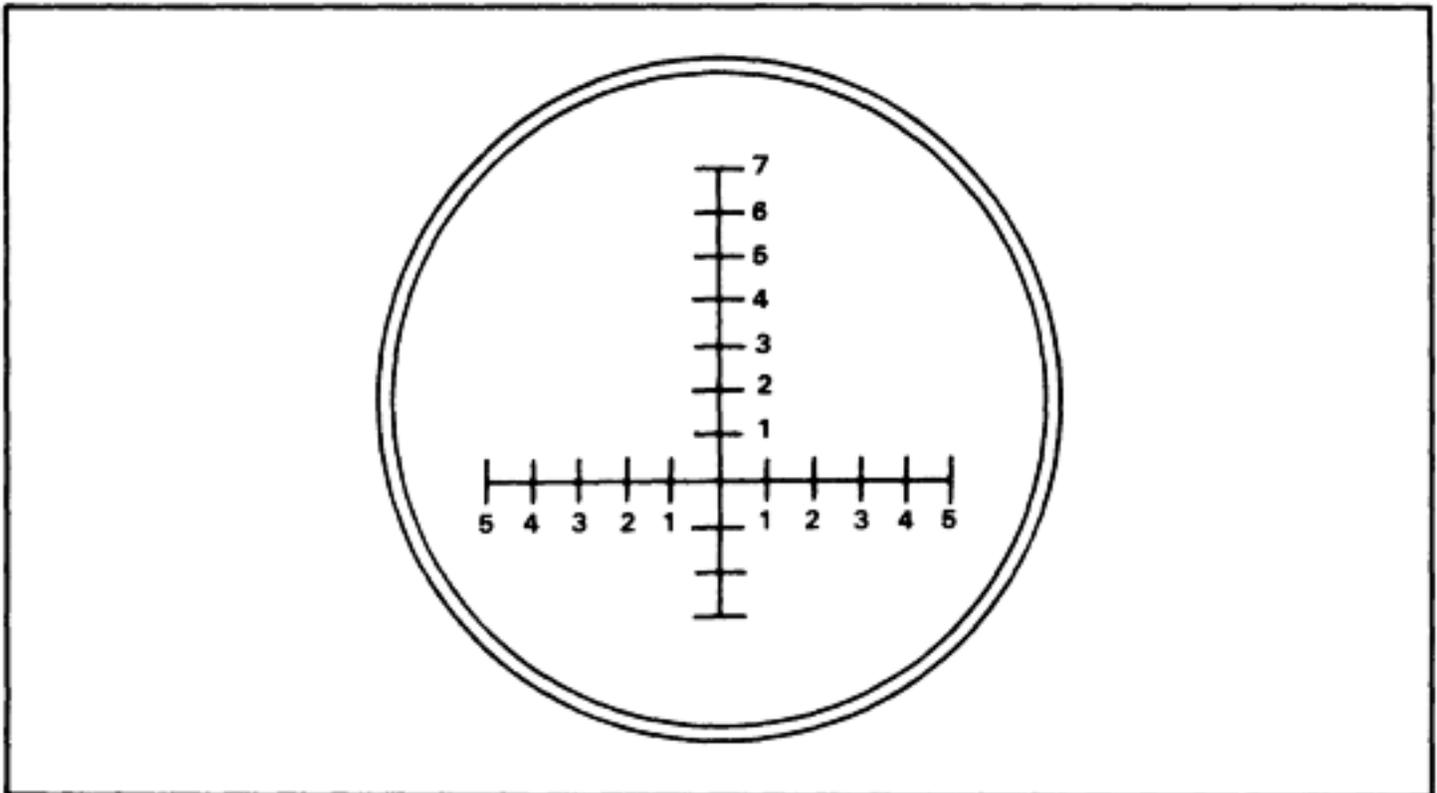
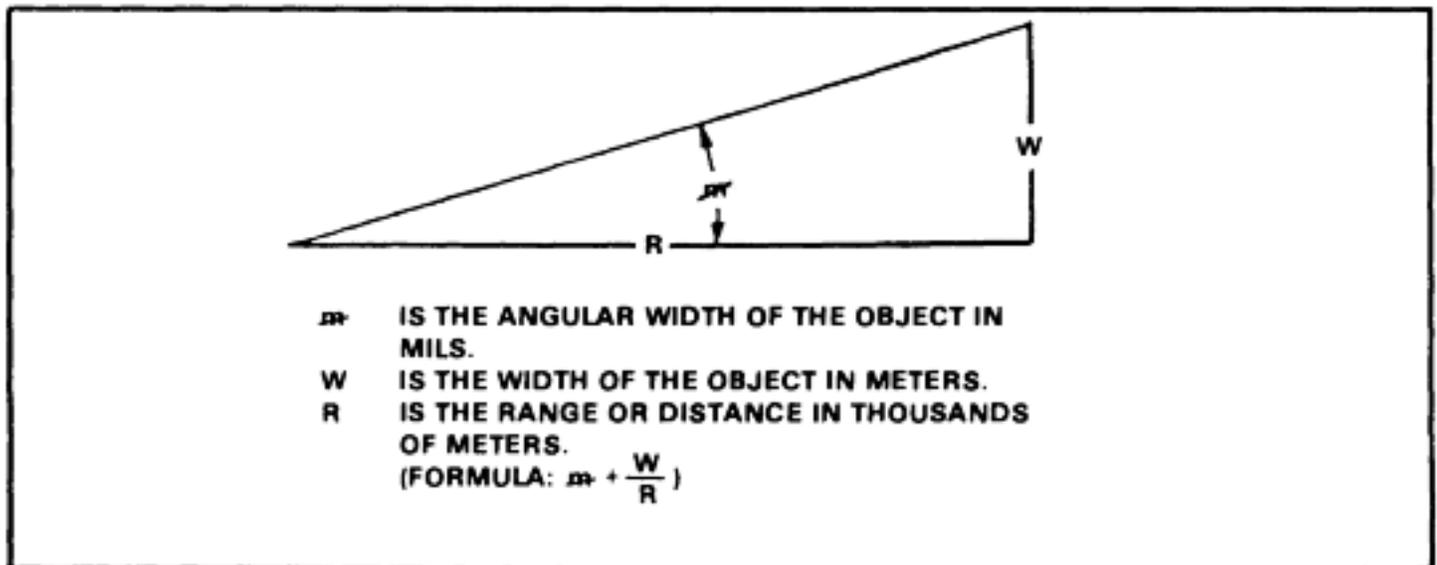

Figure 6-6. M19 binocular reticle.
Figure 6-7. Mil relation.
Binoculars can be used to determine range. The recently adopted M19 binocular, unlike other models, is a lightweight, compact instrument intended for use in general field observation and fire direction. The binocular's left telescope includes horizontal and vertical reticles graduated in 10-mil increments (Figure 6-6). When using binoculars to determine range, the soldier must understand the mil relation (Figure 6-7).
a. The mil (m) is the unit of angular measurement used in adjusting fire. A circle has 6,400 mils. At a distance of 1,000 meters, an object 1 meter wide measures 1 mil. Change mils to meters by multiplying the number of mils times the range (distance) in thousands of meters. Obtain the unknown width or range to an object (Figure 6-7) using a similar method.
b. The mil relation, as shown in Figure 6-7, is $\text{mil} = \frac{W}{R}$; when mil is the angular width of the object in mils, W is the width of the object in meters, and R is the range or distance in thousands of meters.
(1) To find Width when the known Range is 4,000 meters and the object is 15 mil wide, multiply ($R \times \text{mil}$) 4 (range in thousands) times 15 (mils). The answer is 60 (meters), or $4 \times 15 = 60$ meters.